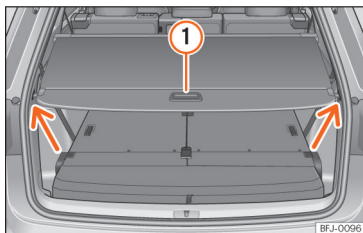

Fig. 119 In the luggage compartment: luggage compartment shelf closed.
- Pull the cover backwards with the handle »» Fig. 119 ① and remove it above the an-